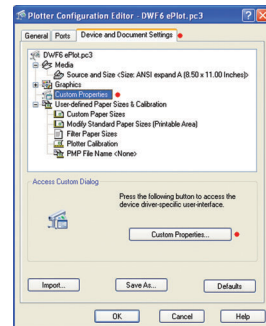

Figure 6
5. In the Plotter Configuration dialog box select Device and Document Settings tab (figure 6).